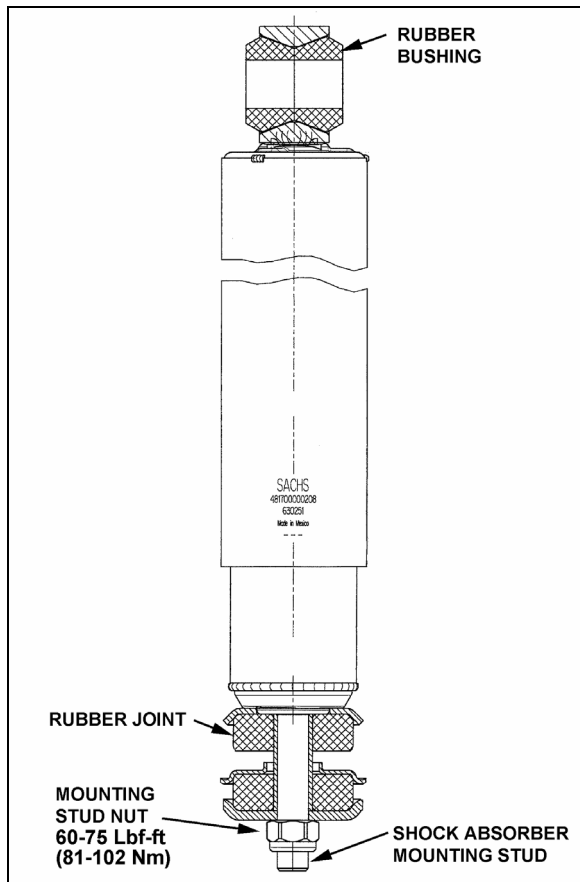

FIGURE 25: SHOCK ABSORBER
2. Remove the nut and washer from shock absorber mounting pin (upper side), taking care to identify the inner and outer washers to ease reinstallation. Refer to figure 25 for details.
3. Place the inner washer on shock absorber pin (Fig. 25).